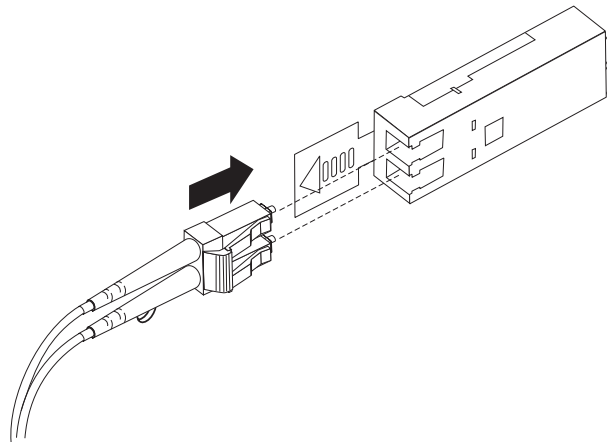

Figure 31. Inserting an LC-LC Fibre Channel cable into an SFP module
4. Carefully insert this end of the LC-LC cable into an SFP module that is installed in the DS3950. The cable connector is keyed so it will be inserted into the SFP module correctly. Holding the connector, push in the cable until it clicks into place, as shown in Figure 31.